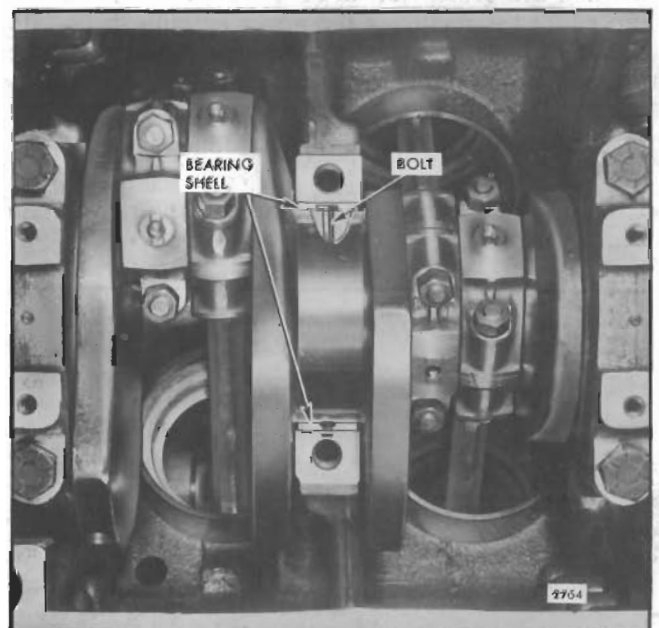

Fig. 3 - Removing Upper Main Bearing Shell (Except Rear Main)
- To remove all except the rear main bearing shell, insert a 5/16" x 1" bolt with a 1/2" diameter and a 1/16" thick head (made from a standard bolt) into the crankshaft journal oil hole. Then revolve the shaft to the right (clockwise) and roll the bearing shell out of position as shown in Fig. 3. The head of the bolt must not extend beyond the outside diameter of the bearing shell.